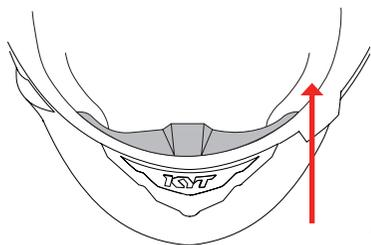

FIGURE 15
**NOSE GUARD****Removal** — Figure 15